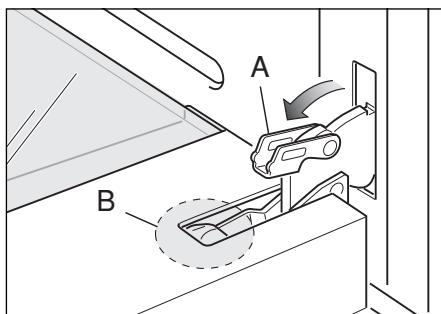
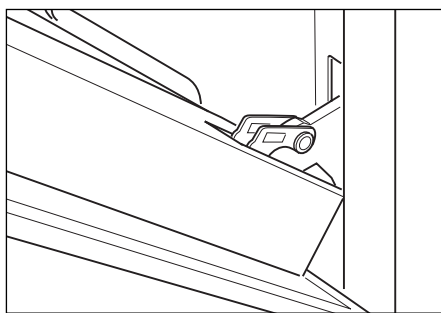

Fig.21b
Fig.21c
- Fully open the lever "A" on the left and right hinges. (Fig 21b)
- Gently close the door (Fig. 21c) until the left and right hinges are hooked to part "B" of the door (Fig. 21b)